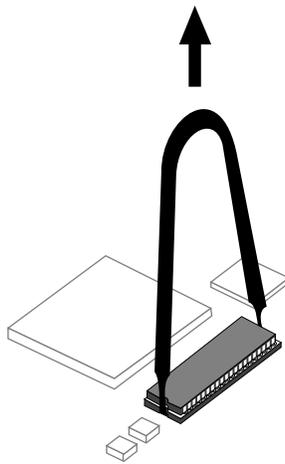

Figure 13 Removing the PROM chip from the socket.
- You received a chip removal tool - it looks like a pair of huge tweezers. Insert the chip removal tool between the PROM chip and the socket on the board, as shown in Figure 13. Work the chip away from the socket in a rocking motion, pulling up on one side of the chip and then on the other side.